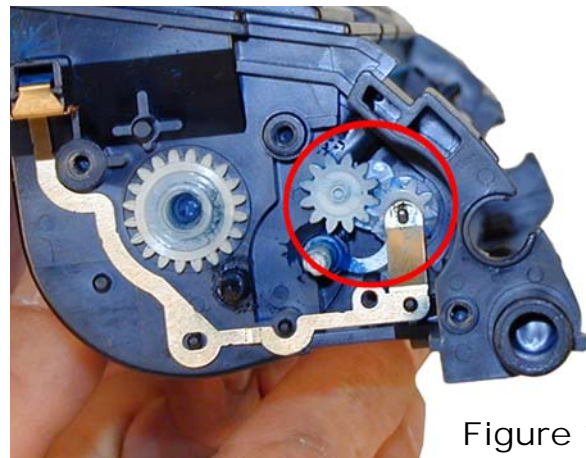

Figure 19
15) Check to ensure that the contact to the feed roller is clean, and that the two gears are clean and greased. If not clean them and re-grease the gears with white lithium grease. See **Figure 19**